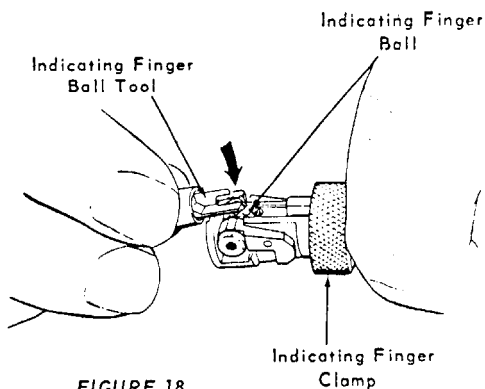

FIGURE 18
7. Be sure the Ball is seated by pressing against it firmly with the back of the Ball Tool (see Figure 18).